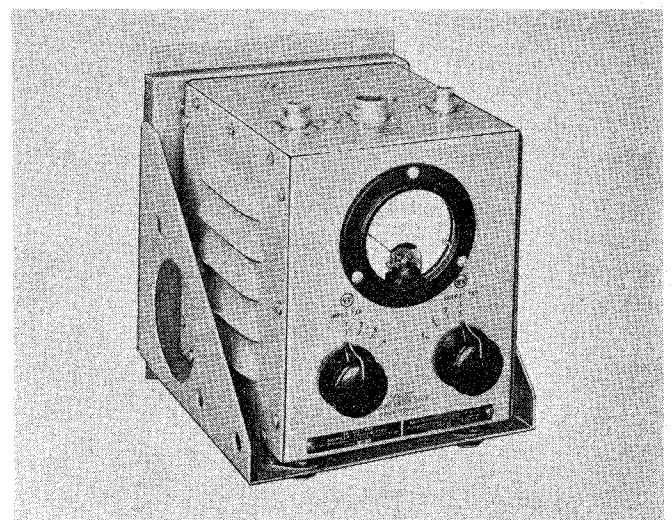

Figure 1-11. Transmitter Coupler CU-402/SRT,
(7) TRANSMITTER COUPLER CU-402/SRT (LOAD ADJUSTING UNIT, LAU). (See figure 1-11.)